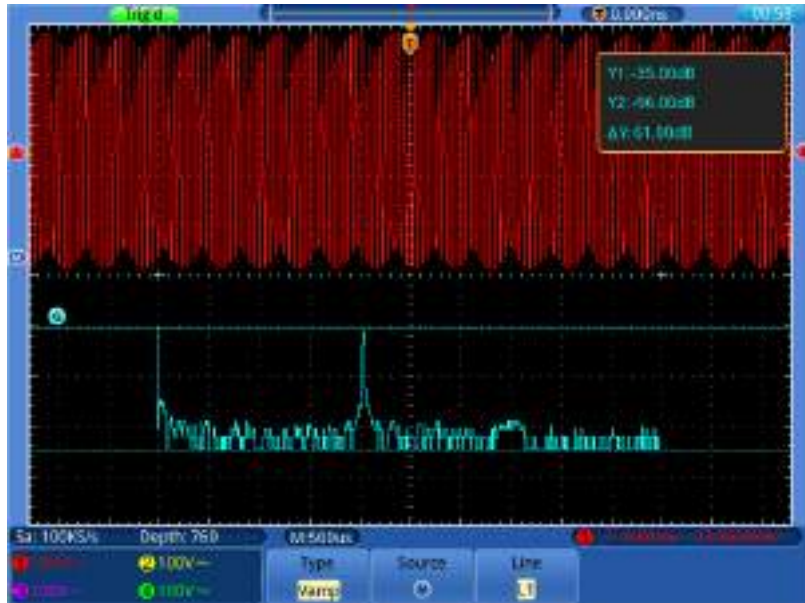

Figure 5-12 Wave of Vamp cursor measurement
4. Select **Line** in the bottom menu; select **L1** in the right menu. The  icon will appear beside the dotted line of L1, represents you can turn the G knob to adjust the position of L1. Select **L2** to adjust the position of L2. Select **L1&L2** to adjust the two cursors together. The cursor measure window at the top right shows the present position of two cursors and the absolute value of amplitude difference (see *Figure 5-12*).